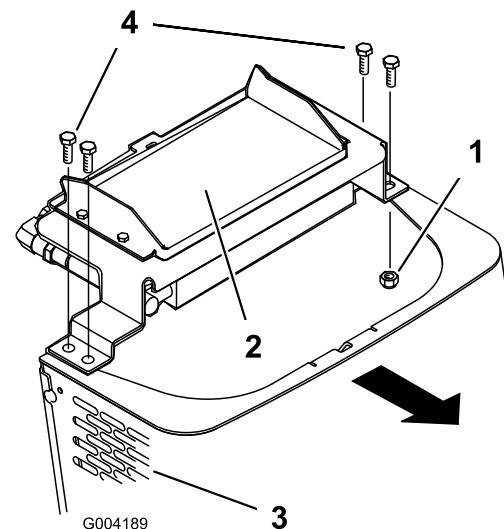

Figure 33
6. Remove the shoulder bolts and nuts securing the oil cooler to the top of the front screen (Figure 33).